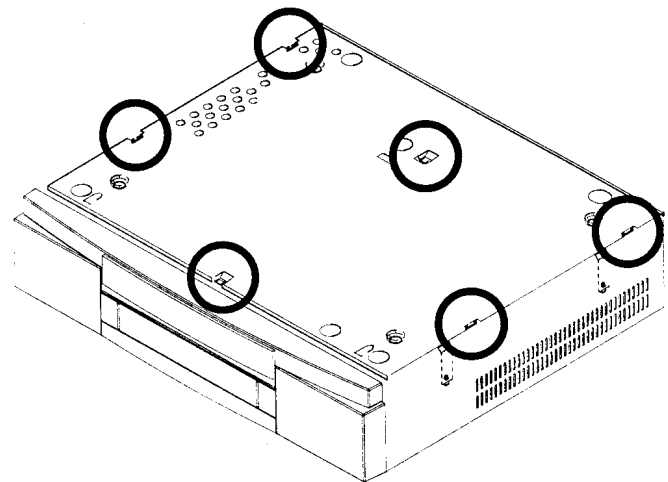

Fig. 2
- The bottom plate can be lifted off by releasing the six snap hooks (see fig. 2).
- Free the holding bracket (Fig. 2) by rotating it up and back from the upper end.